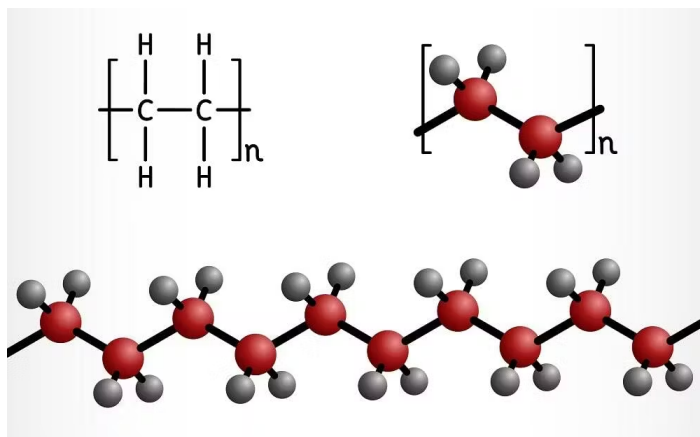

Figure 9: Chemical formula of polyethylene. Red and gray spheres are C and H, respectively.
a. Figure 9 shows the chemical formula and structure for polyethylene. Which of the following are true statements about the bonding in polyethylene.